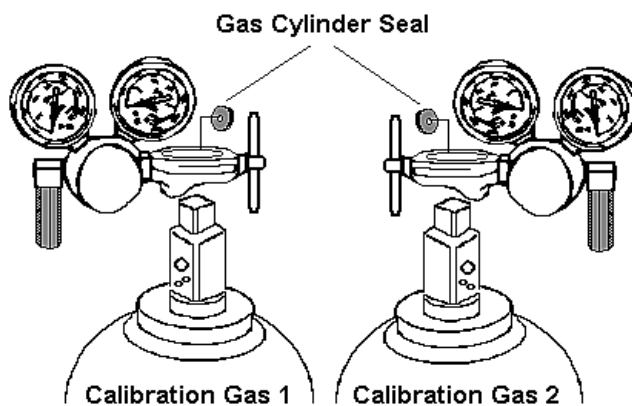

Fig. 4-10: Position of calibration gas cylinder
1. Check if sealing ring is assembled on the regulator. If yes, remove the sealing ring and assemble the new one which is shipped with the gas cylinder (see Fig. 4-10).
1. Check if sealing rings are assembled on the regulators. If yes, remove the sealing rings and assemble the new one which are shipped with the gas cylinders (see Fig. 4-10).